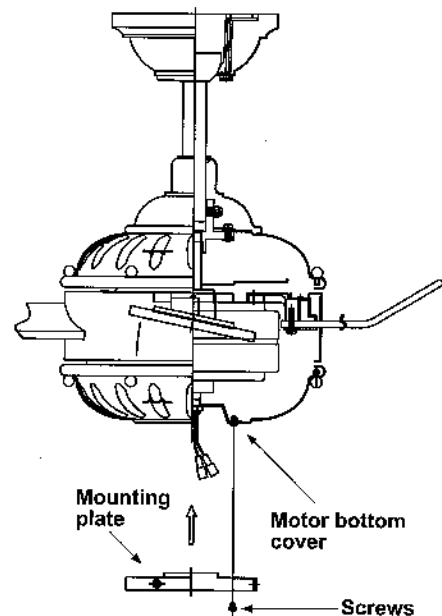

Figure 14
Step 2. Place the key holes on the mounting plate over the 2 screws previously loosened from the motor bottom cover, turn mounting plate until it locks in place at the narrow section of the key holes. Secure by tightening the 2 screws previously loosened and the one previously removed. (Fig. 14)